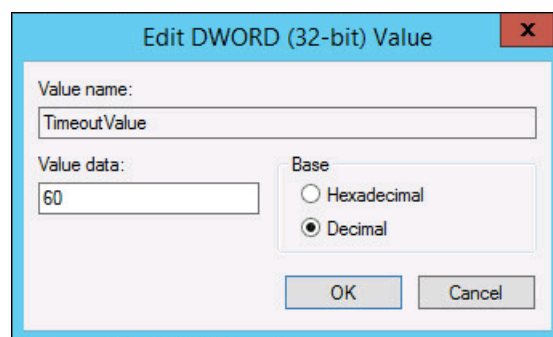

Figure 5-1 Windows time-out value
4. Confirm that the value for the key is 60 (decimal value), and, if not, change the value to 60 (Figure 5-1).